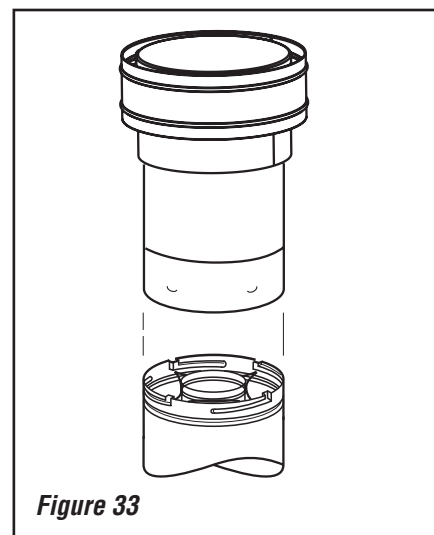

Figure 33
K. Install the vertical termination - The final step involves installation of the SV4.5CGV-1 Vertical Termination. Extend the vent sections to the height as shown in the "Vertical vent termination section" on **Page 18**. The SV4.5CGV-1 Vertical Termination (**Figure 33**) installs in the exact same fashion as any other **Secure Vent** section. Align the termination over the end of the previously installed section, adjusting the radial alignment until the four locking dimples of the termination are aligned with the inlets of the four incline channels of the last vent section. Push the termination down until it fully engages, then twist the termination clockwise running the dimples down and along the incline channels until they seat at the end of the channels.